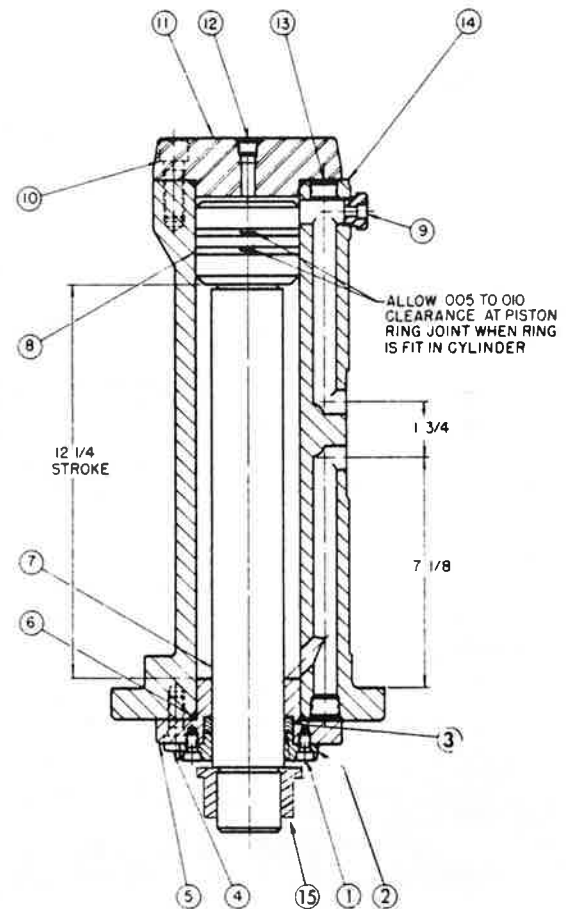

Figure 4
1. SERVICE ON CYLINDER (Fig. 4)